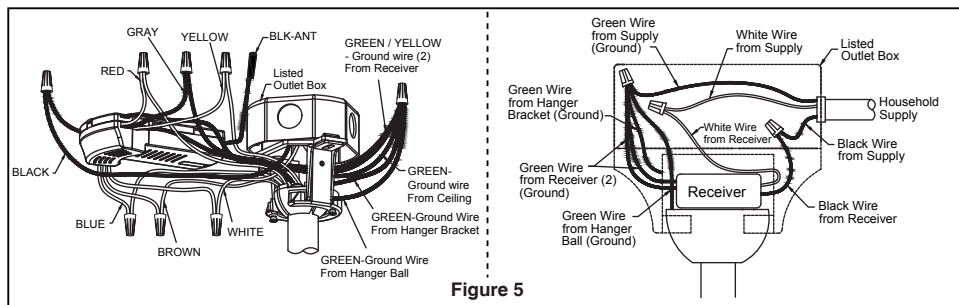

Figure 5
- ☐ 5. Route wires through motor coupling cover, canopy screw cover and ceiling canopy. (Figure 5)
- ☐ **4.** After connections have been made, put the white and green leads to one side and the black leads towards the other side, the connection should be turned upward and carefully push leads into the outlet box. The wires should be spread apart with the grounded conductor and the equipment-grounding conductor on one side of the outlet box and the ungrounded conductor on the other side. (Figure 5)
5. Secure the glass to light kit by twisting in a clockwise direction. Twist the glass gradually **until it snaps onto the light kit**. Do not over-tighten. (Figure 5)
5. To set the remote code same positions as the receiver with a small screwdriver or ball point pen (neither included), slide dip switches firmly up or down. (Figure 5)